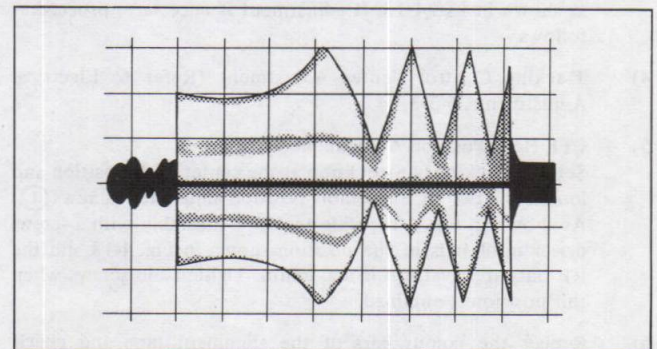

Fig. 4-11.
- iii) If the exit free waveform appears as shown in Fig. 4-11, turn the ACE lateral adjustment screw counterclockwise (less than 30°), until the waveform is within the specified range.